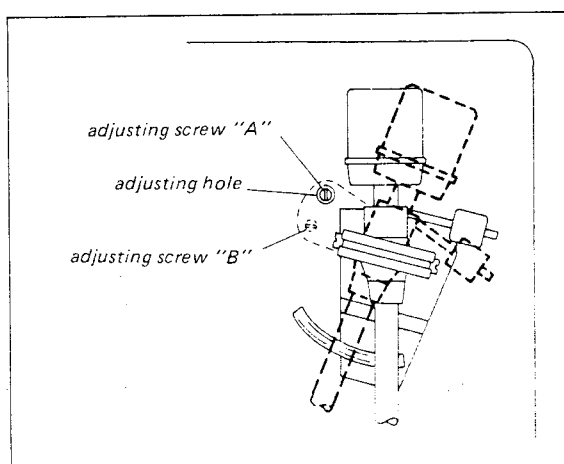

Fig. 3-1
3. ADJUSTMENT OF AUTO MECHANISM (See Fig. 3-1, 3-2, 3-3 and 3-4)
1. The adjusting screw "A" in Fig. 3-1 is the one to adjust the position of AUTO-UP (lifting off of the tone arm from the disk automatically). The adjusting screw "B" is the one to adjust the position of AUTO-IN (setting of the tone arm on the disk automatically).
2. To begin with, when the tone arm is located at the position as shown with line in Fig. 3-1, the adjusting screw "A" will appear in the adjusting hole. When the screw is turned clockwise, the action of AUTO-RETURN will become sooner. To the contrary, when it is turned counterclockwise, the action of AUTO-RETURN will become later. Make adjustment of the screw in such a way that auto-returning operation is carried out at the middle way of the lead-out groove.